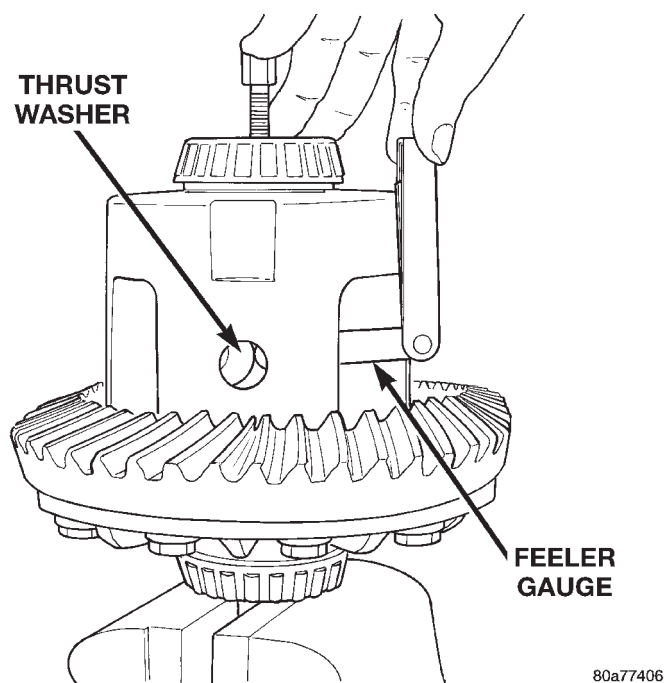

Fig. 51 Remove Pinion Gear Thrust Washer
(10) Using an appropriate size feeler gauge, remove thrust washers from behind the pinion gears (Fig. 51).